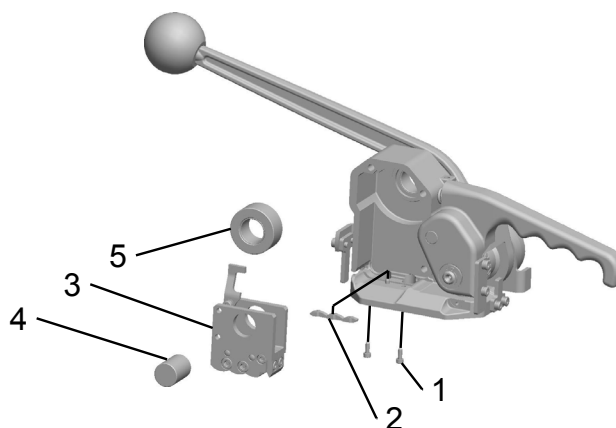

Fig. 13
- Remove two cylinder screws (Fig. 13/1) and remove and replace the lower punch (13/2).